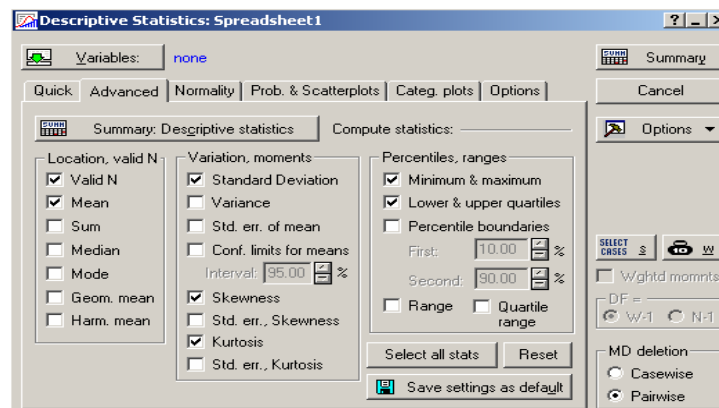

Figure 2.14 Descriptive Statistics Spreadsheet
3. Click Advanced in Descriptive Statistics Spreadsheet to get Figure 2.14